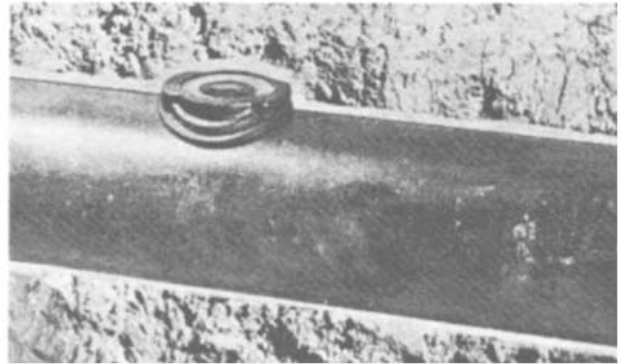

FIGURE 2
4. Place the small saddle gasket in the recess in the top of the saddle. FIGURE 2.